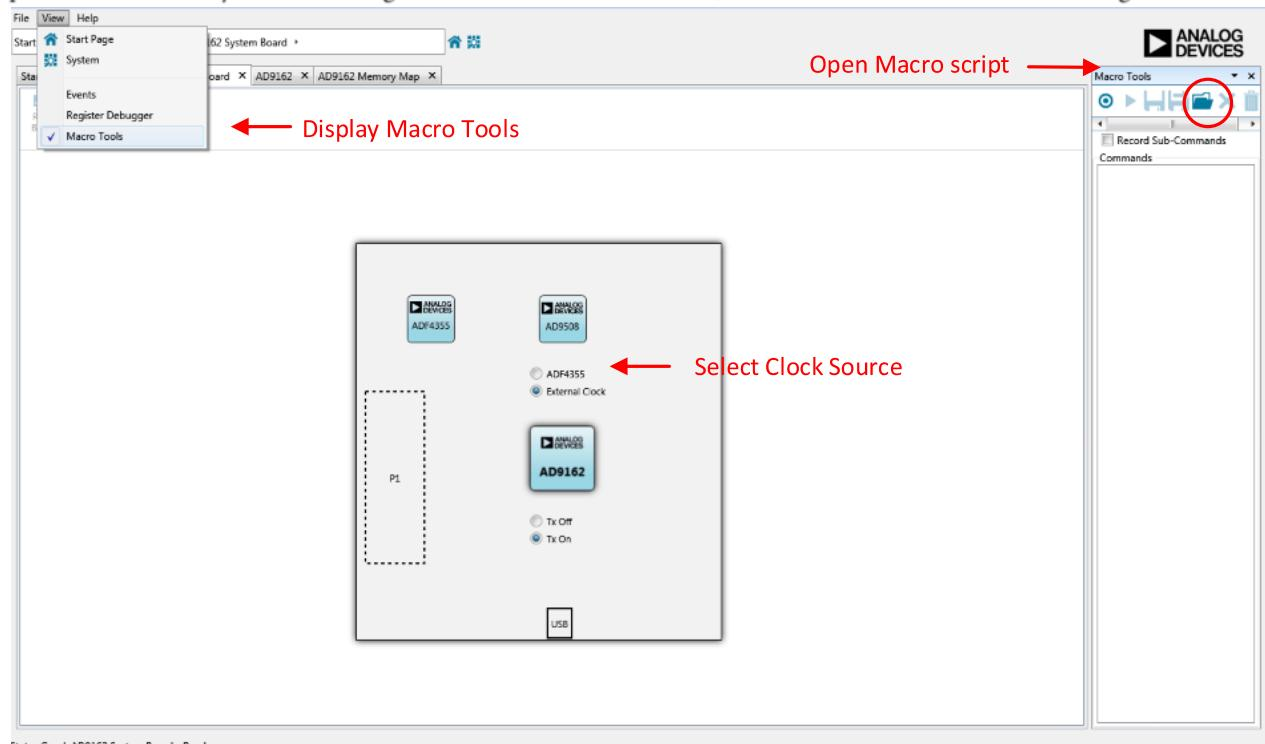

Figure 6. AD9162 Eval Board View and Clock Source Selection in ACE
2. Open the board view by double clicking on the AD9162 Eval Board area, then select clock source as shown in Figure 6.
4. Go to the macro section on the right and click on the “Open Macro” icon (folder opening) as shown in Figure 6. In the Open Macro dialog, navigate to the file that is saved in step 3, and click “Open”. A series of register writes will appear below the control.